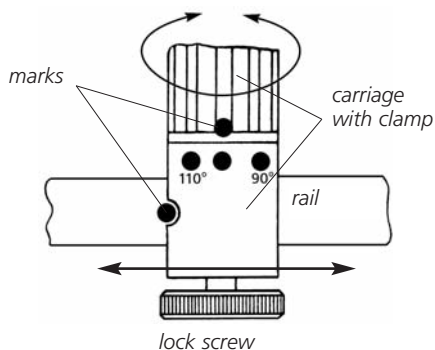

Fig. 7
1. Loosen the lock screws on the undersides of the carriages (see Fig. 7).